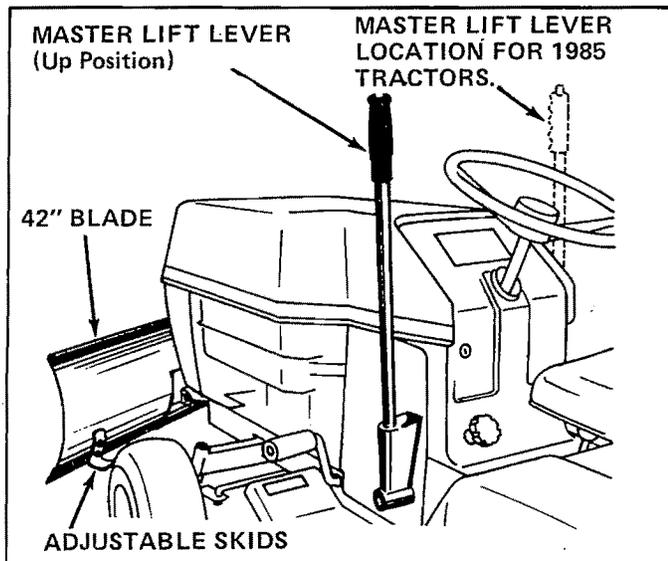

FIGURE 14
3. To lift blade and lock for transport pull master lift lever back and lock in notch. See figure 14.
6. Skid shoes may be adjusted by loosening two nuts and re-positioning to desired height. See figure 14.